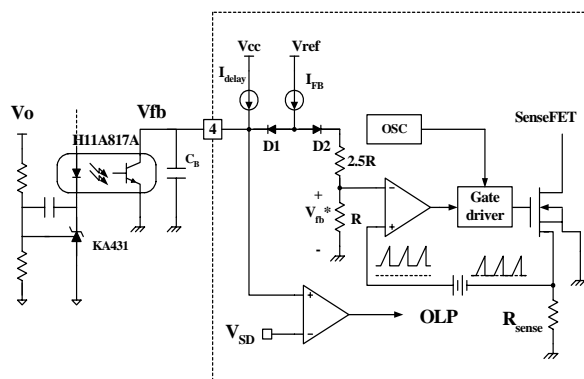

Figure 5. Pulse Width Modulation (PWM) Circuit
2. Feedback Control : FSES0765RG employs current mode control, as shown in figure 5. An opto-coupler (such as the H11A817A) and shunt regulator (such as the KA431) are typically used to implement the feedback network. Comparing the feedback voltage with the voltage across the R_{sense} resistor plus an offset voltage makes it possible to control the switching duty cycle. When the reference pin voltage of the KA431 exceeds the internal reference voltage of 2.5V, the H11A817A LED current increases, thus pulling down the feedback voltage and reducing the duty cycle. This event typically happens when the input voltage is increased or the output load is decreased.
2.1 Pulse-by-pulse Current Limit: Because current mode control is employed, the peak current through the Sense FET is limited by the inverting input of the PWM comparator (Vfb*) as shown in figure 5. Assuming that the 0.9mA current source flows only through the internal resistor (2.5R + R = 2.8 kΩ), the cathode voltage of diode D2 is about 2.5V. Since diode D1 is blocked when the feedback voltage (Vfb) exceeds 2.5V, the maximum voltage of the cathode of D2 is clamped at this voltage, thus clamping Vfb*. Therefore, the peak value of the SenseFET current is limited.